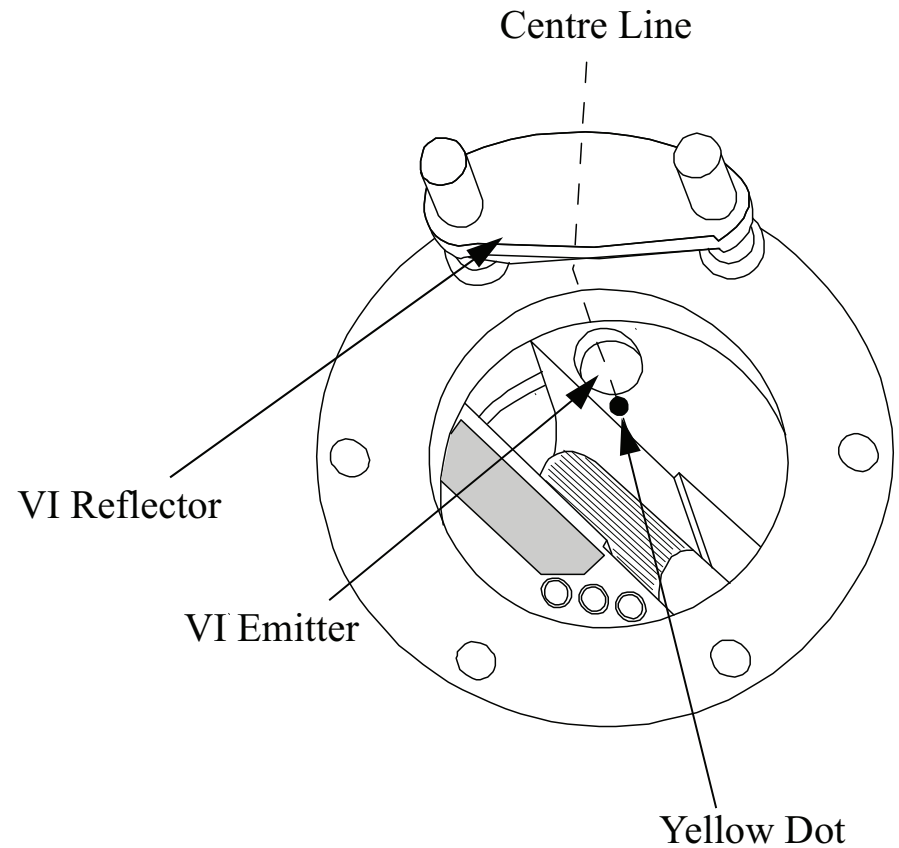
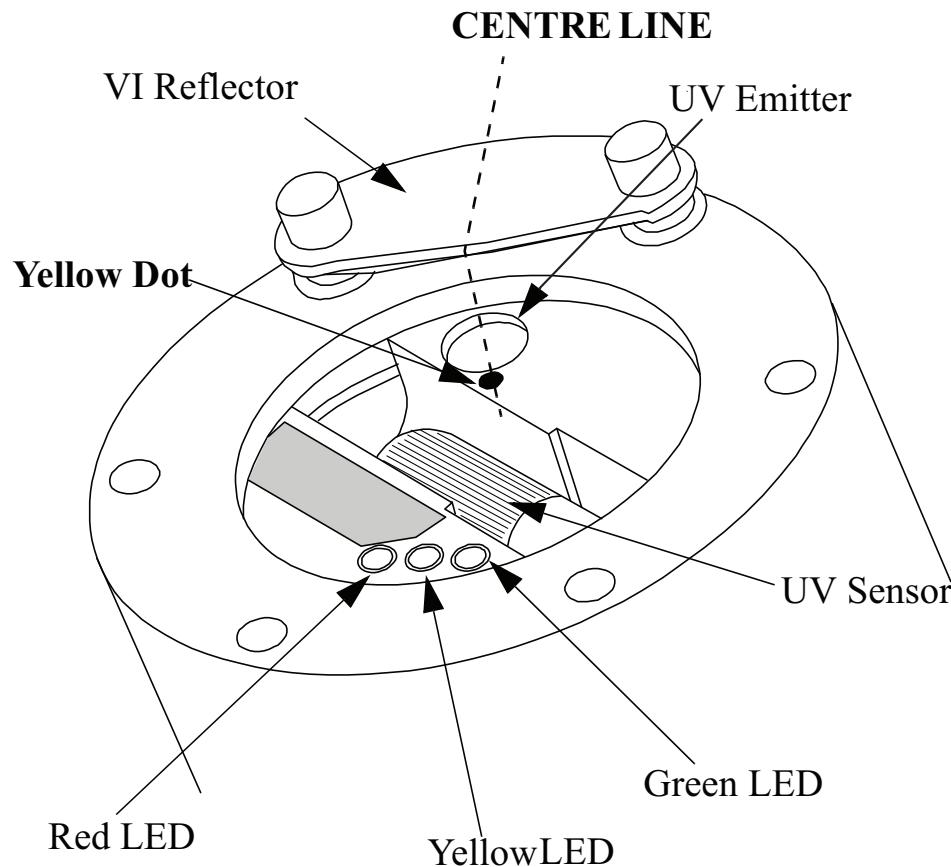

Figure 3. Position of VI Reflector
Figure 6. Detector Viewing Windows
It is extremely important that the VI reflector is centred over the yellow dot. Refer to Figure 3 or Figure 6.
A visual integrity (VI) fault may be simulated by completely misaligning or removing the reflector, then putting the unit in MVI test mode. When this is done, the unit will go into fault indicated by the flashing yellow LED and a current output of 2 mA. Once the reflector is properly aligned (indicated in Figure 3 and Figure 6) and the unit taken out of MVI test mode, the unit will return to normal operation with a current output of 4 mA.